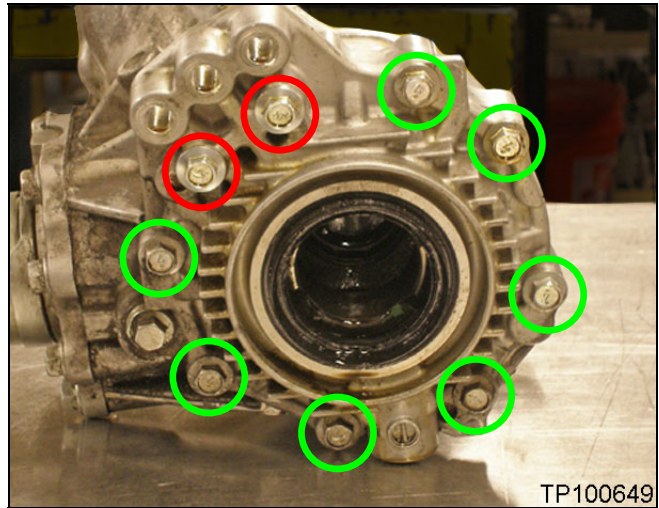

Figure 4
7. Remove the nine (9) bolts securing the adaptor case to the transfer case. See Figure 4.